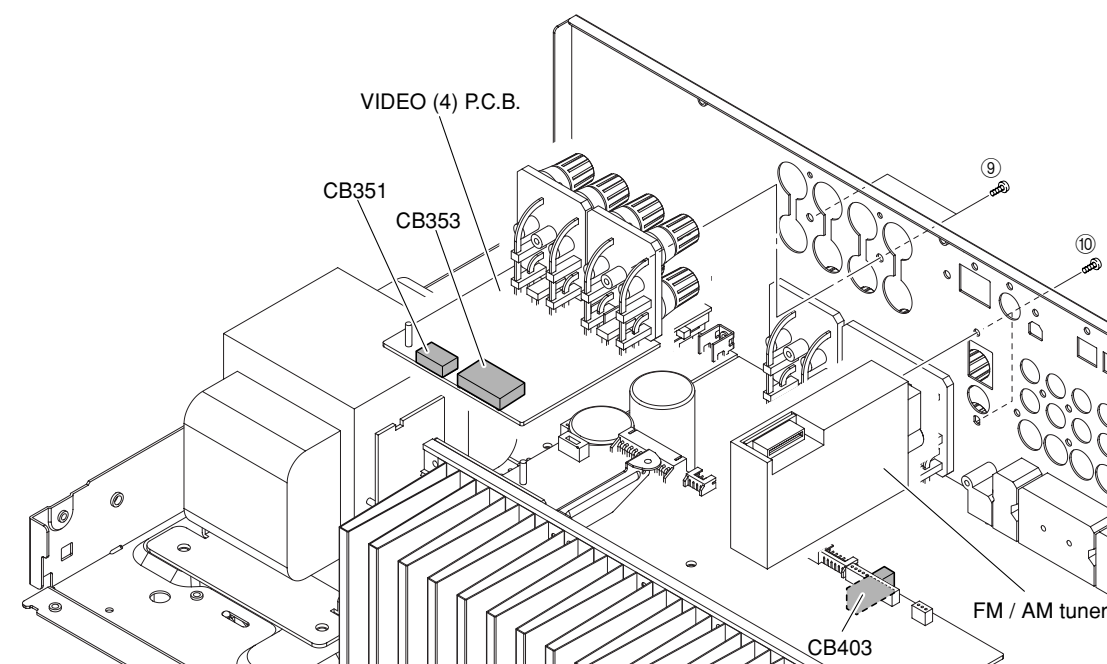

Fig. 4
5. Removal of VIDEO (4) P.C.B.
- Remove 2 screws (9). (Fig. 4)
- Remove CB351 and CB353. (Fig. 4)
- Remove VIDEO (4) P.C.B. (Fig. 4)
- Remove 2 screws (10). (Fig. 4)
- Remove CB403. (Fig. 4)
- Remove FM/AM tuner. (Fig. 4)